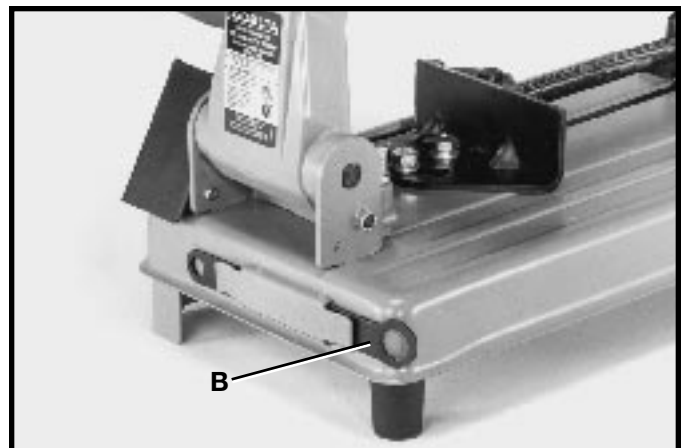

Fig. 17
Fig. 17 illustrates the wrench (B) stored in position inside the clamp.